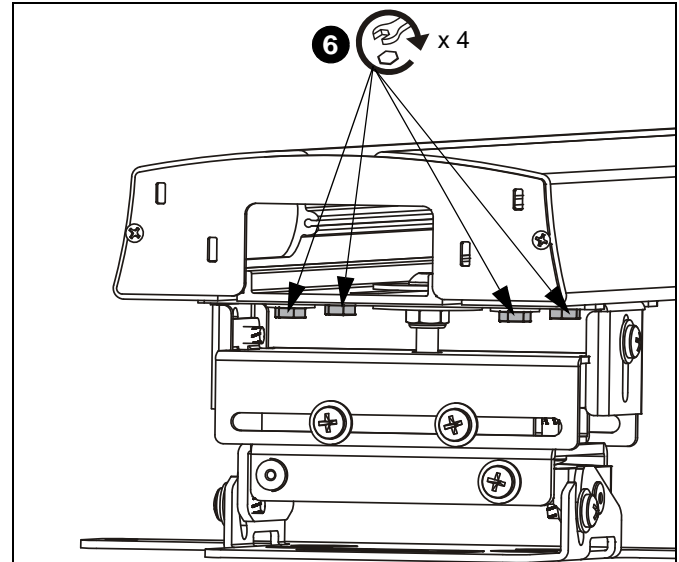

Figure 15
6. Tighten four hex head bolts, making sure image is square with wall. (See Figure 15)